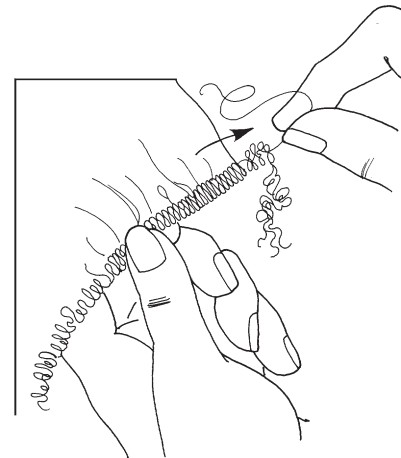

Fig. 25-3
2. Gently pull the needle thread(s) to gather up the fabric. Slide the gathers along until the threads pull out of the stitching. (Fig. 25-3)